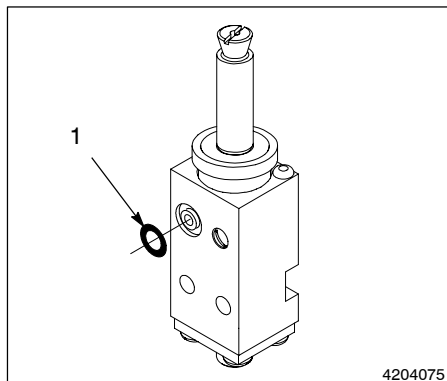

Fig. 6-10 Rear View of Module
7. Install the o-ring in the groove in the back of the new module body, see Figure 6-10.